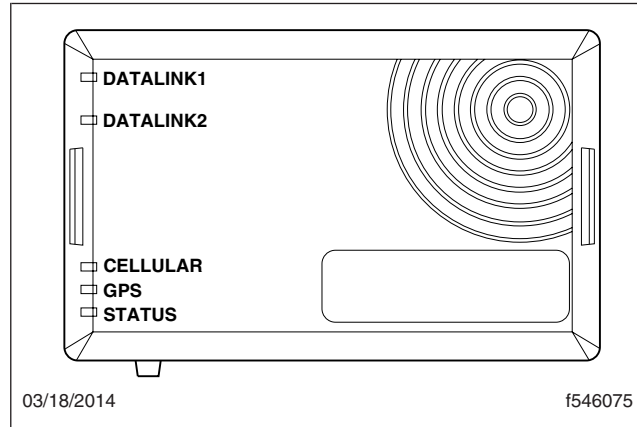

Fig. 8, Virtual Technician HU LEDs
- 7.2 If no LEDs light up with the ignition ON, diagnose supplied power and ground to the unit. See Fig. 8 and Table 2. There are seven LEDs visible on the VT module. Start the vehicle and drive to an open area, at least 40 feet (12 meters) away from any buildings. Park the vehicle and keep the ignition in the ON position. Apply the parking brake.